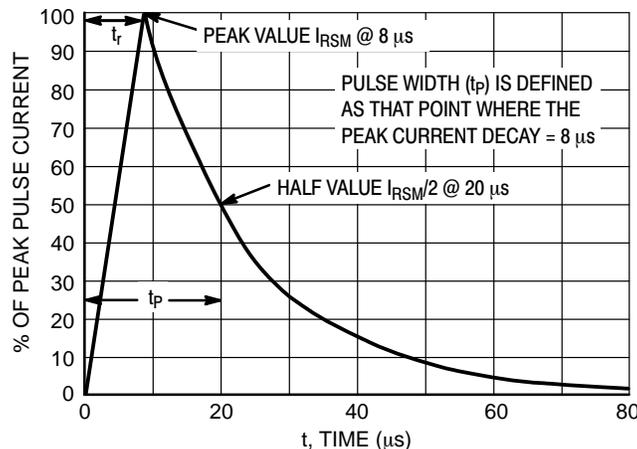

Figure 7. 8 X 20 μs Pulse Waveform
- Surge current waveform per Figure 7.